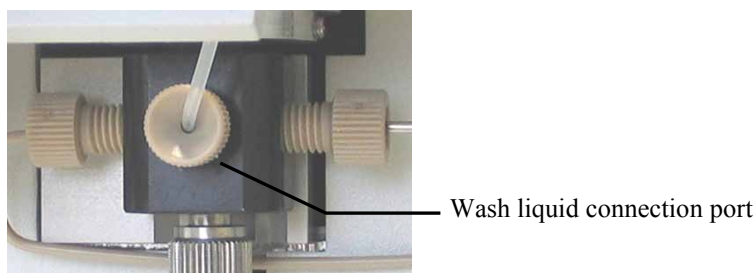

Fig. 16: Wash liquid line connected to the syringe valve
4. Connect the long tube from the Online Degas Wash kit to the syringe valve (→ Fig. 16, page 44).